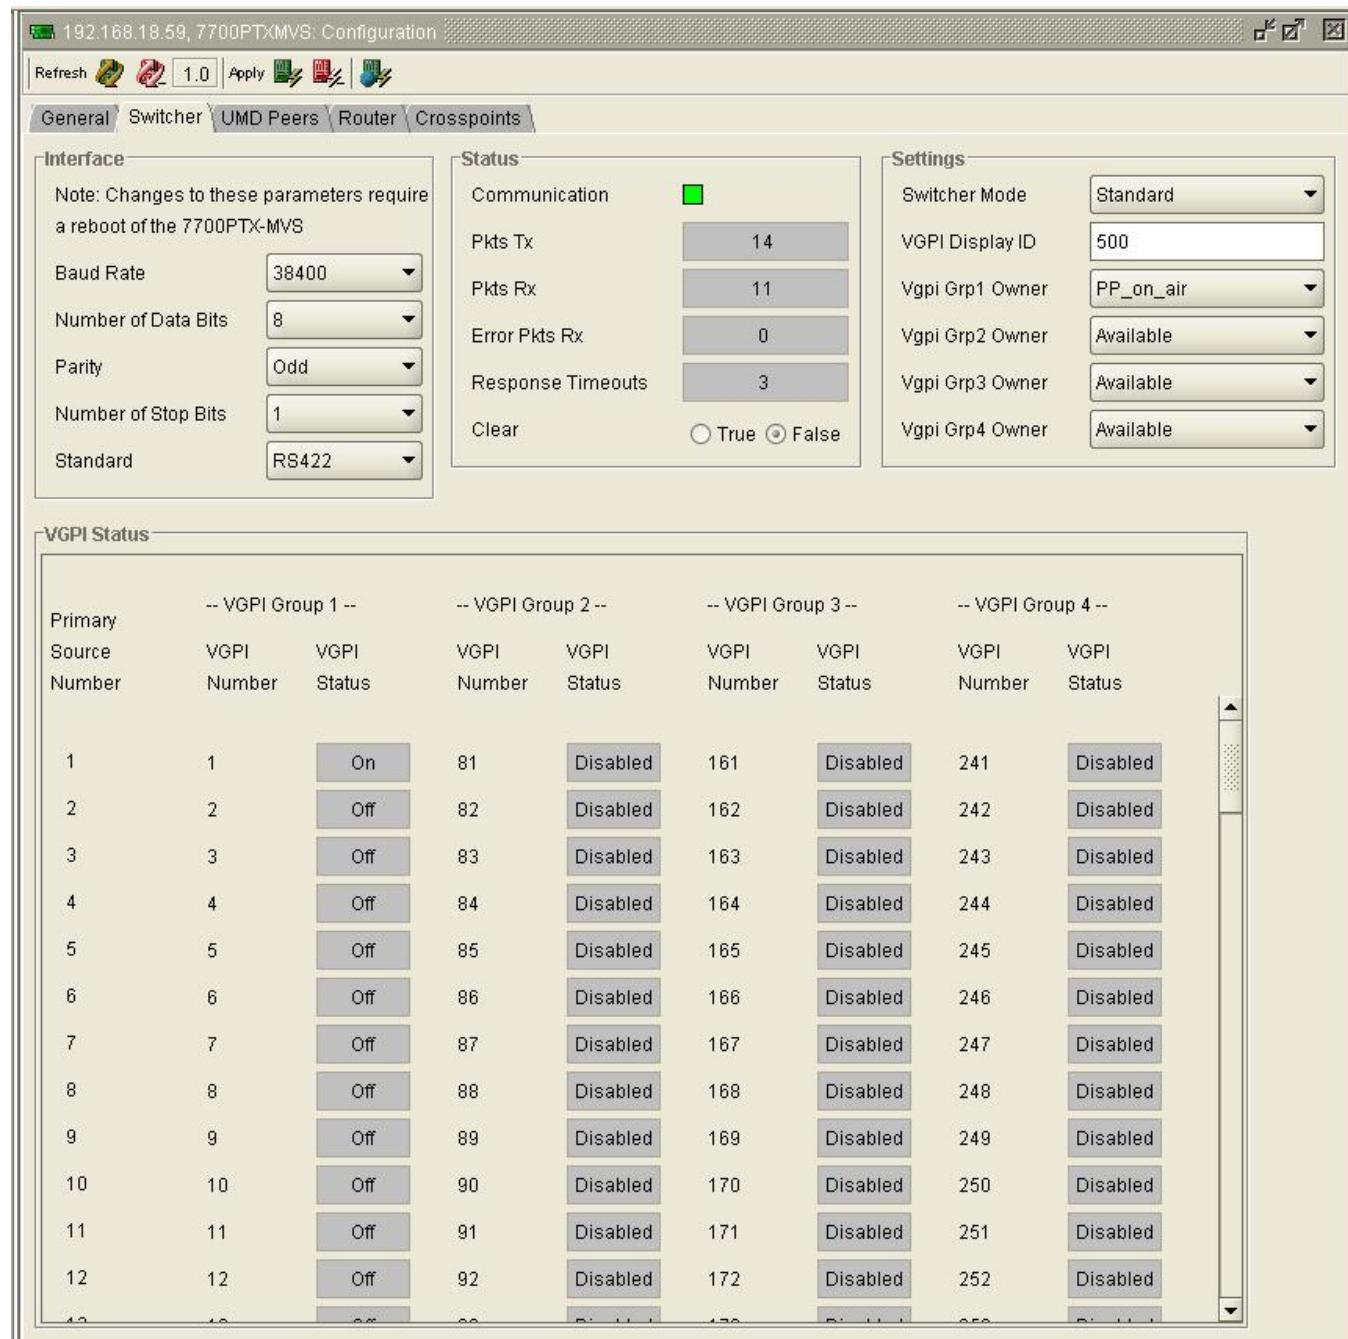

Figure 2-15: Switcher Communication
3. If switcher tallies are being monitored, check the VGPI status frame to determine which of the switcher's primary sources are contributing to the monitored switcher output. As Figure 2-15 shows, primary source 1 is contributing to the program/preview on-air switcher output. This information is conveyed as VGPI 1 to the MVP's output card.